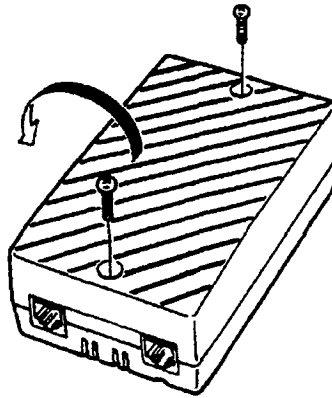

Figure 4-12 Removing the Screws from the SLT-F(1G)-( ) ADP
1. Remove the two screws from the top to open the SLT-F(1G)-( ) ADP. Refer to Figure 4-12 - Removing the Screws from the SLT-F(1G)-( ) ADP.